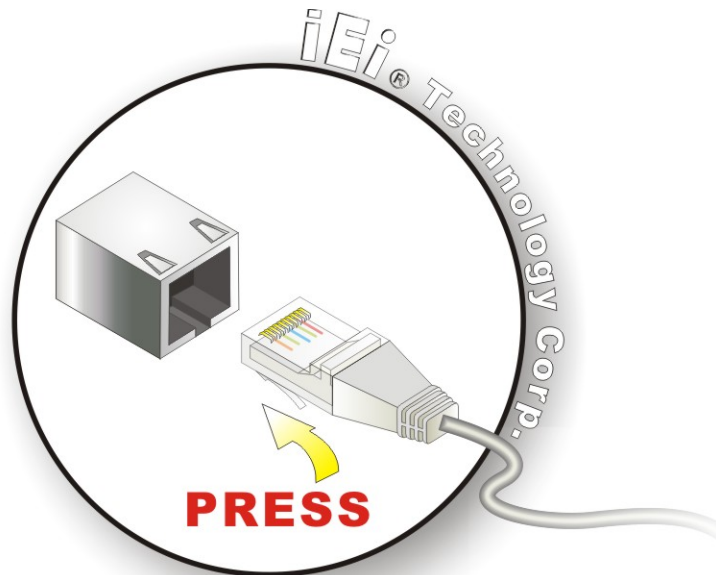

Figure 5-16: LAN Connection
Step 2: Align the connectors. Align the RJ-45 connector on the LAN cable with one of the RJ-45 connectors on the KINO-690S1. See **Figure 5-16**.